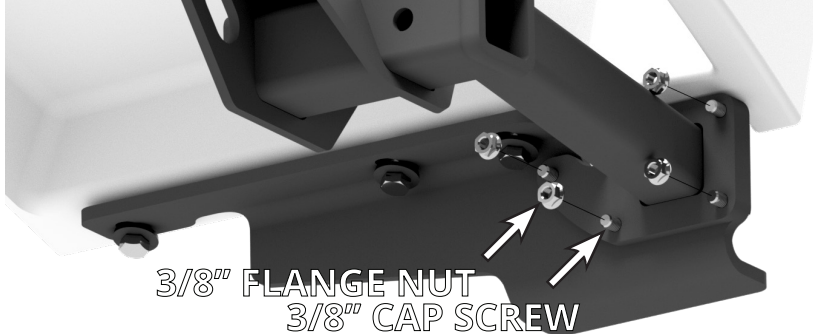

FIGURE B2: VIEW OF PASSENGER SIDE PLATE AND HITCH FRAME
- Attach the hitch frame to the passenger side plate using four 3/8" x 1-1/4" cap screws and 3/8" flange nuts, as shown in Figure B2. Loosely attach the bolts at this time.